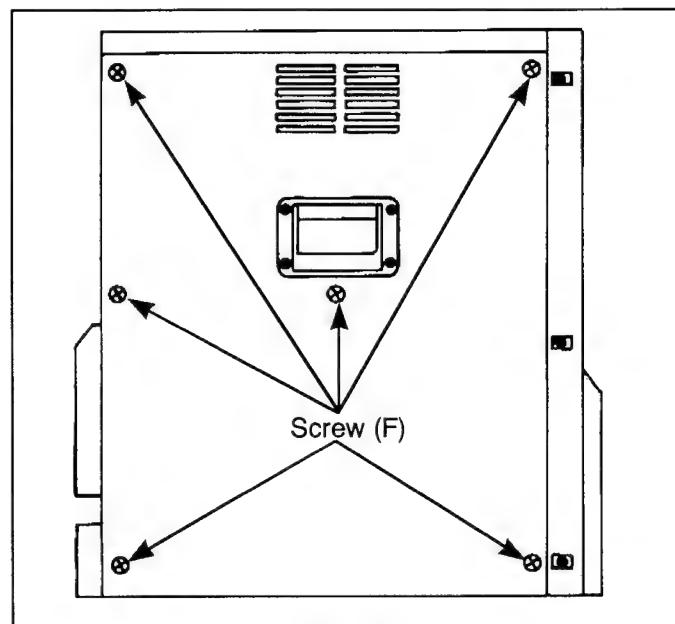

Fig. D9
1) Unscrew the 6 screws (F) and remove the Side Panel. (Fig. D9 shows the right side panel.)